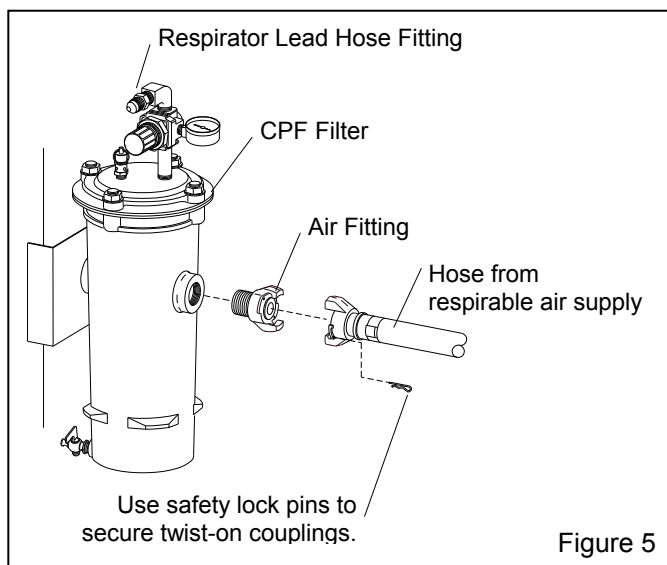

Figure 5
2.4.2 Apply thread sealant to the male threads of an air fitting that is compatible with the air supply hose fitting, as noted in Section 2.4.3, and install it onto the 1-NPT port located at the side of the filter, as shown in Figure 5. Note that the style of connection shown in Figure 5 is for reference only.
2.4.3 Refer to the CPF air filter owner's manual and connect an air supply hose from an air source that meets OSHA requirements for respirable air, to the fitting installed on the CPF filter inlet, as shown in Figure 5 and noted in the CPF air filter owner's manual.